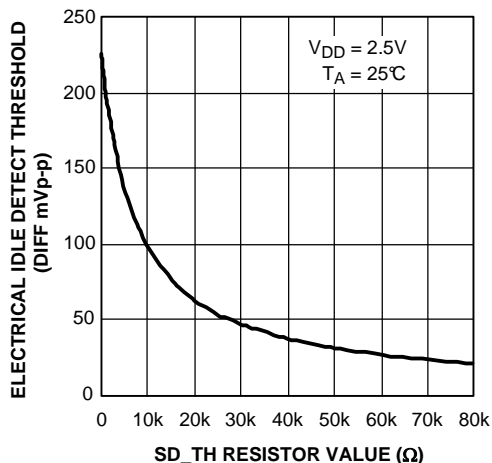

Figure 6. Typical Idle Threshold vs. SD\_TH resistor value
(1) SD\_TH resistor value can be set from 0 through 80k ohms to achieve desired idle detect threshold, see Figure 6